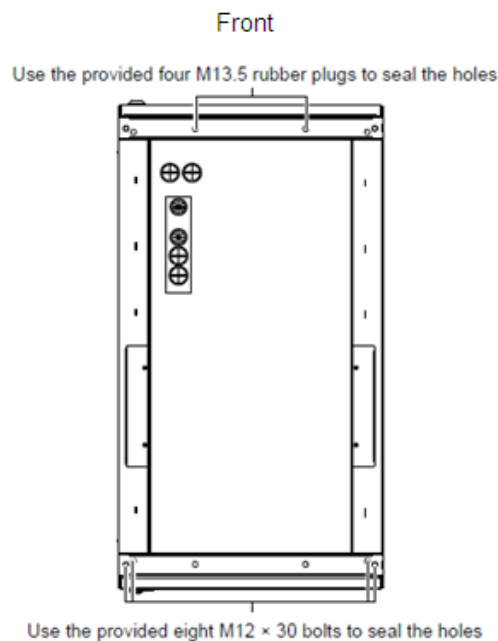

Figure 2-26 Blocking the holes on the top of the cabinet (Top view)
- Use M12*30 bolts to block the eight holes on the top plate as shown in Figure 2-26.